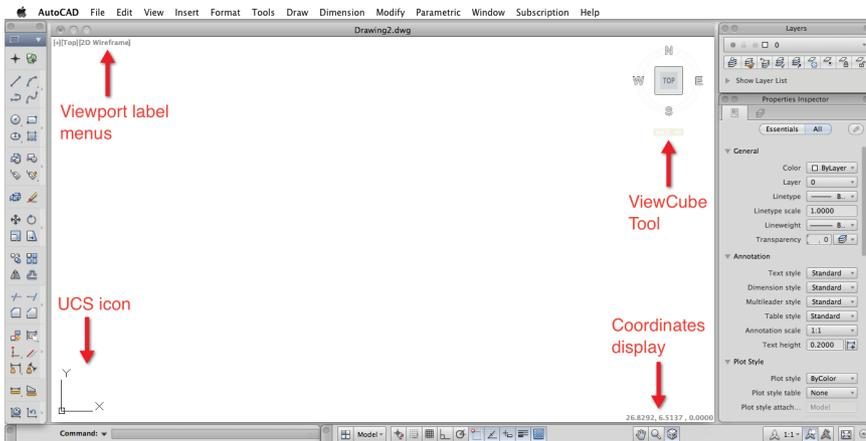

Figure 1: AutoCAD user, meet Mac UI; Mac UI, meet AutoCAD user.
AutoCAD from the ground up natively for the Mac, you end up with a 'perfect blend' of the two, resulting in AutoCAD for Mac. Figure 1 shows the AutoCAD for Mac user interface (UI).
The drawing area is where you create and edit your designs. The following tools can be found in the drawing area (see Figure 1).